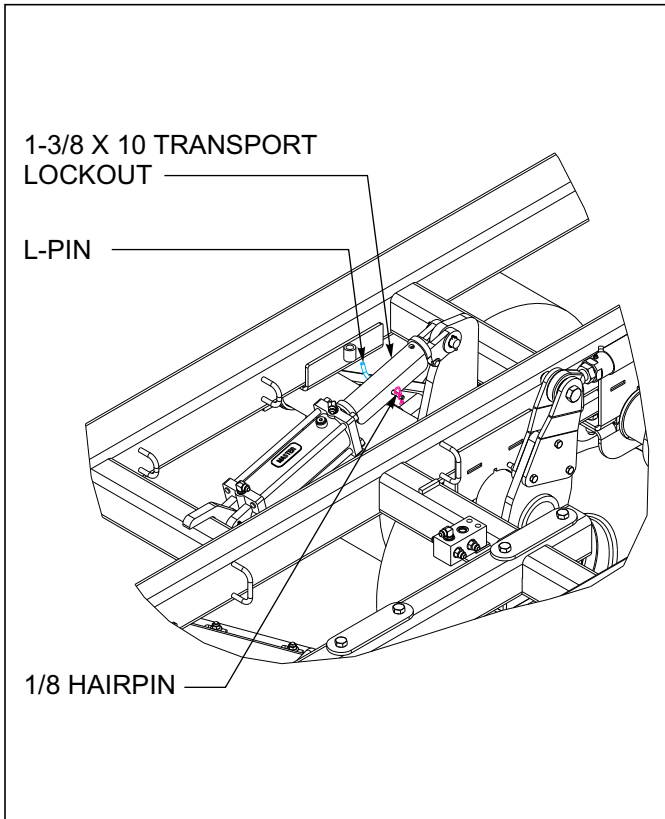

Figure 4-3: Installed Transport Locks
4. With all cylinders fully extended, remove the 1-3/8 x 10 transport lockouts (**See Figure 4-3.**)